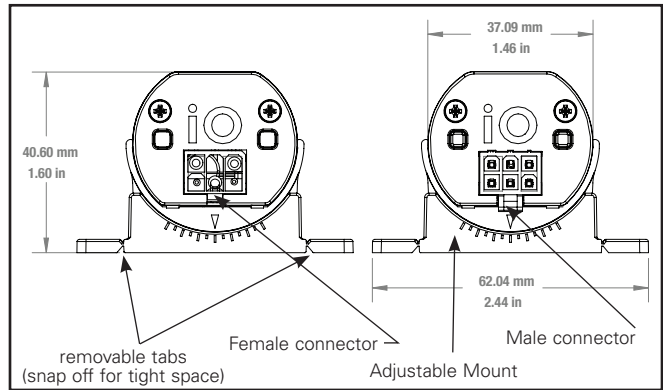

Figure 2.1
3. Unpack fixtures, cables, and mounting hardware from boxes. See Figures 2.1 and 2.2 for key fixture details needed for proper installation.